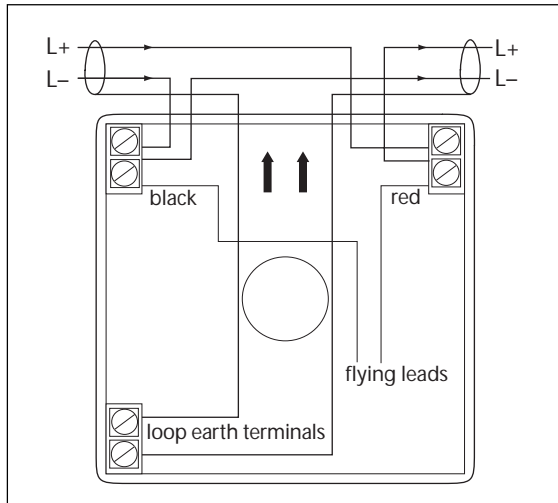
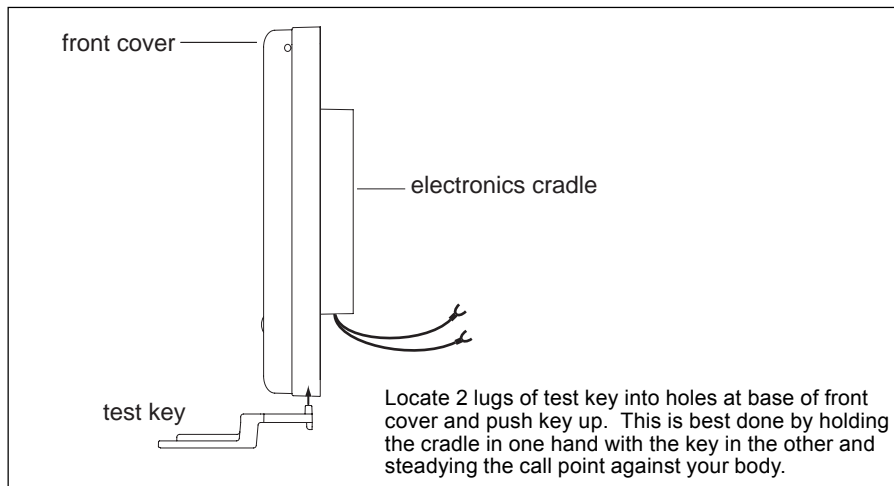

Fig 2 Connection Diagram
Fig 3 Separating front cover and electronics cradle
- Run the cables from the XPlorer loop into the box and connect them as shown in Fig 2. Ensure that loop earth continuity is maintained.
- Separate the front cover and the electronics cradle using the two lugs of the test key as shown in Fig 3. Connect all cables as shown in Fig 2, secure the call point to the backbox and check that the glass is fitted. Finally, replace the front cover.